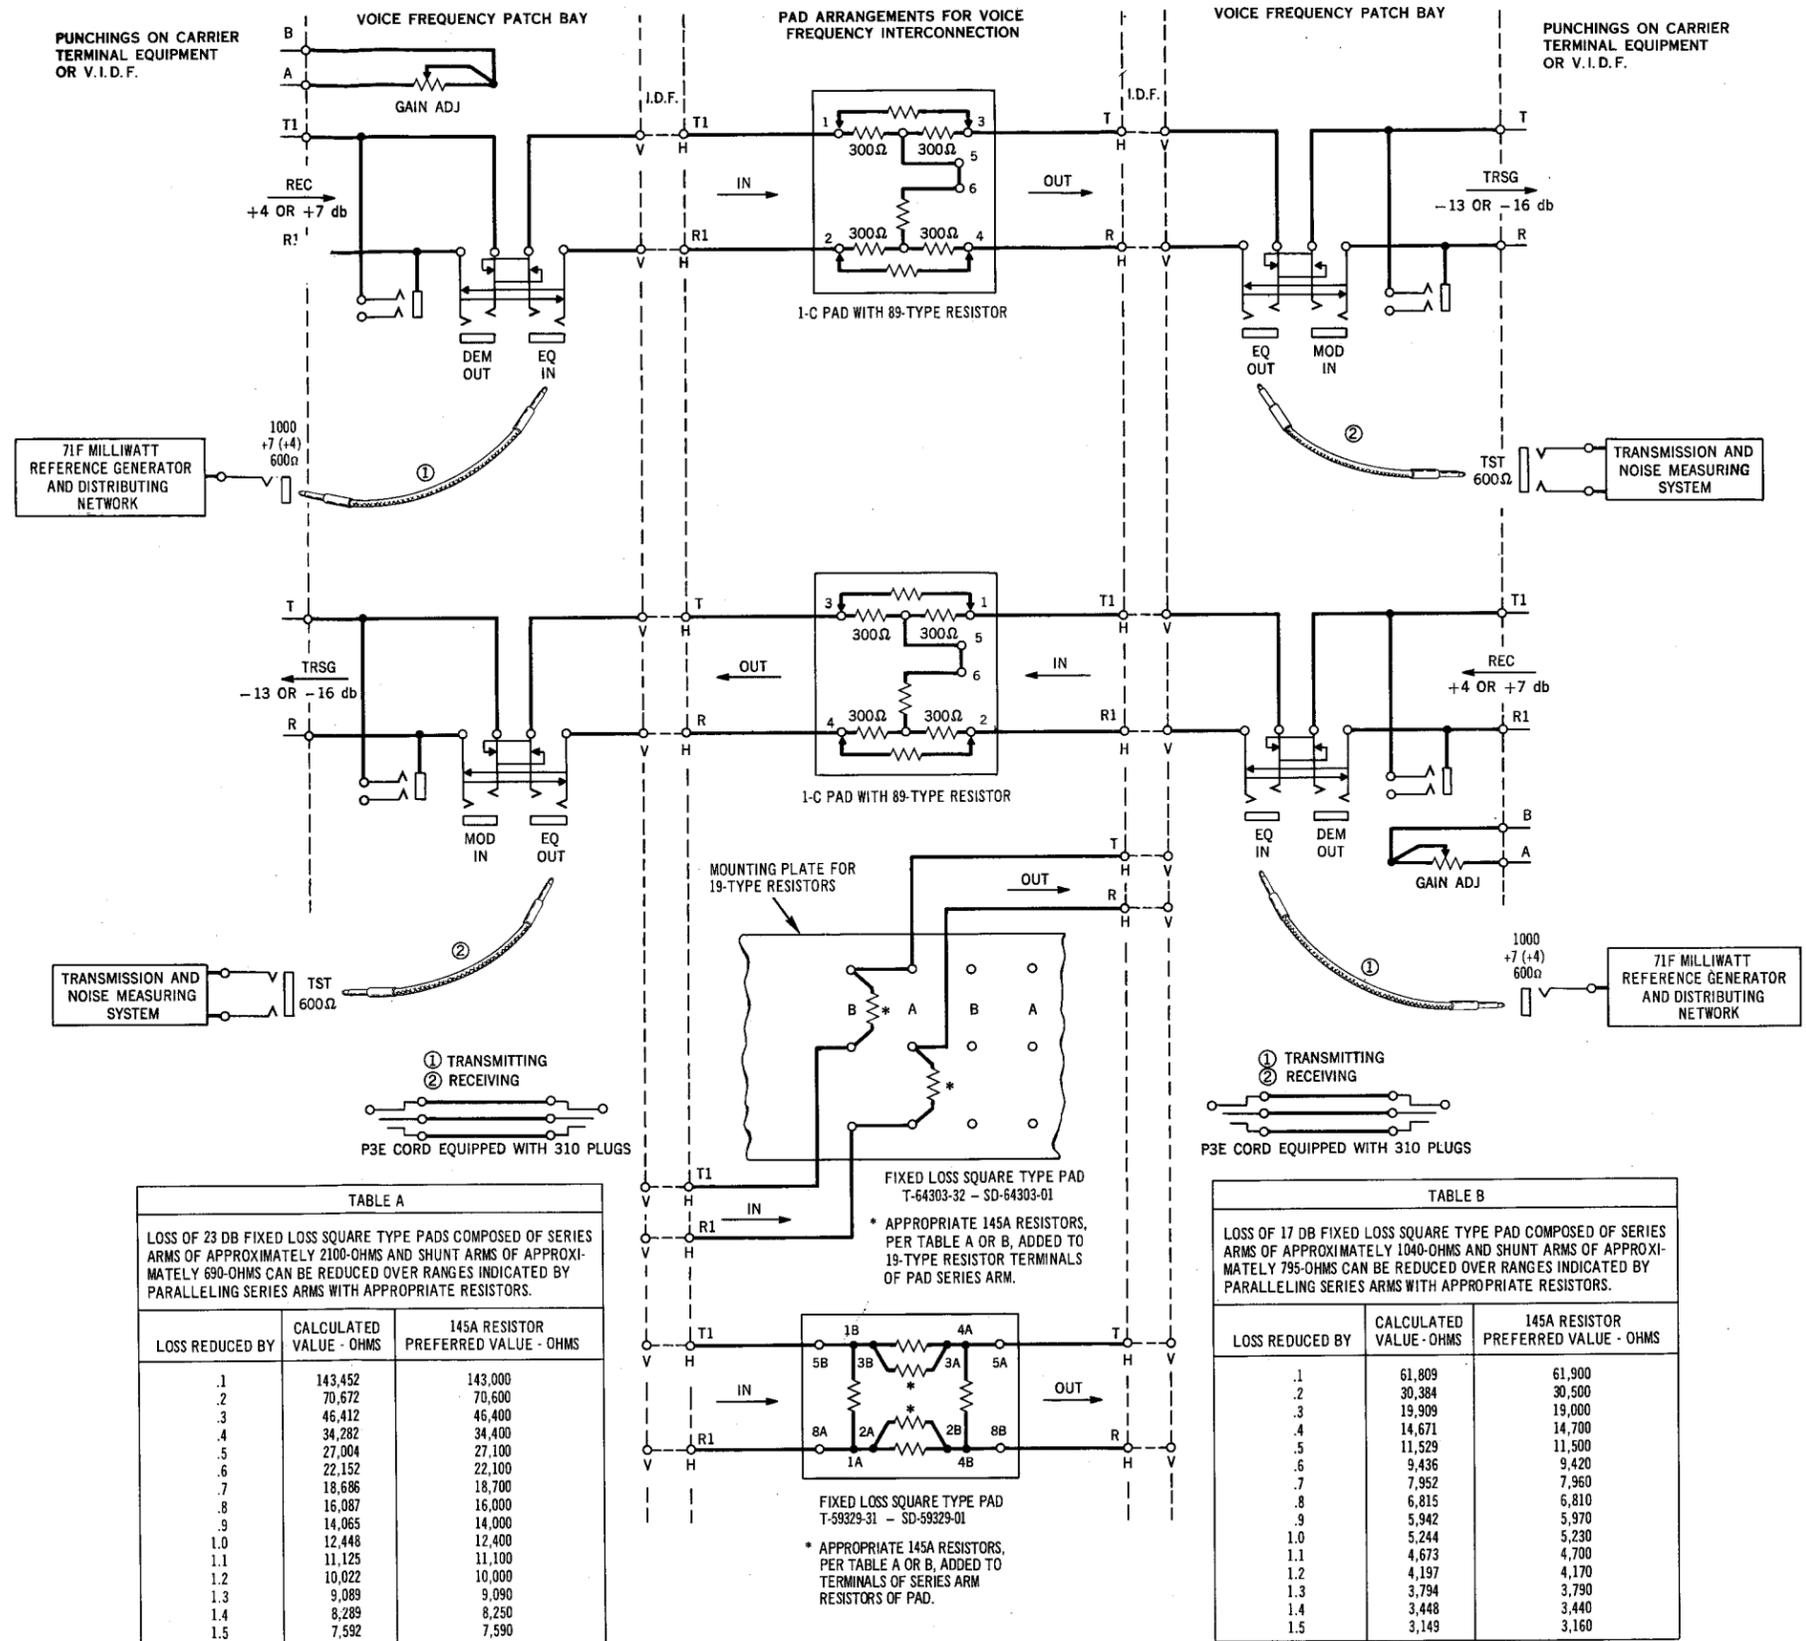

Fig. 1 - Adjustment of Transmission Levels on Combination Trunks - Intermediate Offices
Interconnection arrangements and losses between VF patch bays as required by circuit orders or trunk orders are normally accomplished by the use of 1C pad sockets with 89-type resistor combinations or by fixed loss pads as shown in Fig. 1.
<p>When transmission levels are to be adjusted on combination trunks that are in service, the trunks should be temporarily removed from service at both ends.</p> <p>The MOD IN and DEM OUT jacks of the carrier channels assigned to the trunks should be terminated in 600 ohms during the tests.</p> <p>Make sure that all milliwatt supply outlets which will be used are adjusted accurately and that the transmission measuring systems are calibrated correctly.</p> <p>Where a 1000 +7 or (+4) 600Ω outlet is not provided at the VF patch bay as shown in Fig. 1, a 21A transmission measuring set which has been calibrated using a 22A milliwatt reference meter can be used to obtain 1000-cycle test power at the correct level of +7 or (+4) db.</p> <p>Measurements and adjustments should be made in each direction of transmission between voice-frequency patch bay or repeater bay appearances as shown in Fig. 1. The measurements should include all equipment and office cabling and/or interoffice tie cabling losses.</p>
1	At the transmitting end — patch from EQ IN jack to 1000 +7 or (+4) 600Ω jack as indicated by ① in Fig. 1.
2	At the receiving end — patch from EQ OUT jack to TST 600Ω jack as indicated by ② in Fig. 1.
4	<p style="text-align: center;">17 DB FIXED LOSS SQUARE PADS — SD-64303-01</p> <p>Fig. 7 of SD-64303-01 and Fig. 18 of T-64303-32 details the schematic wiring arrangements for 17 db fixed loss square type pads consisting of 19-type resistors. Where these fixed loss pads are used, transmission level measurements and adjustments should be made as outlined below.</p> <p>At the transmitting end — patch from EQ IN jack to 1000 +4 600Ω jack as indicated by ① in Fig. 1.</p> <p>At the receiving end — patch from EQ OUT jack to TST 600Ω jack as indicated by ② in Fig. 1.</p> <p>Operate sensitivity switch on the measuring circuit to B + 10 and read the meter. The difference between this reading and -13.0 db is the change required in the loss of the 17 db fixed loss pad.</p> <p>To reduce the loss of 17 db pads, refer to Table B of Fig. 1 for selection of 145A resistors which should be connected in parallel with series elements of 19-type resistors. See Fig. 1 for details.</p> <p>Appropriate 145A resistors connected in parallel with series elements of 19-type resistors should provide a final transmission level measurement of -13.0 ± 0.13 db.</p> <p>The maximum allowable deviation in any 17 db fixed pad value from that originally indicated on the circuit layout record card shall not exceed ± 1.0 db.</p> <p>In those cases where a pad adjustment or repeater gain change exceeds the maximum allowable deviation of ± 1.0 db, the circuit should be investigated for trouble. If, after investigation the condition still exists, the control office shall be so advised prior to referral via lines of organization to determine if design changes are possible.</p> <p>Repeat Steps 4, 5 and 6 for the opposite direction of transmission.</p> <p>The adjusted value of 17 db fixed loss pads should be recorded and dated in ink on all circuit layout record cards and other locally prepared records and treated as a new specified value.</p>
<p style="text-align: center;">23 DB FIXED LOSS SQUARE PADS — SD-64303-01</p> <p>Fig. 11 of SD-64303-01 and Fig. 18 of T-64303-32 details the schematic and wiring arrangements for 23 db fixed loss square type pads consisting of 19-type resistors. Where these fixed loss pads are used, transmission level measurements and adjustments should be made as outlined below.</p> <p>8 At the transmitting end — patch from EQ IN jack to 1000 +7 600Ω jack as indicated by ① in Fig. 1.</p> <p>9 At the receiving end — patch from EQ OUT jack to TST 600Ω jack as indicated by ② in Fig. 1.</p> <p>Operate sensitivity switch on the measuring circuit to B + 10 and read the meter. The difference between this reading and -16.0 db is the change required in the loss of the 23 db fixed loss pad.</p> <p>To reduce the loss of 23 db pads, refer to Table A of Fig. 1 for selection of 145A resistors which should be connected in parallel with series elements of 19-type resistors. See Fig. 1 for details.</p> <p>10 Appropriate 145A resistors connected in parallel with series elements of 19-type resistors should provide a final transmission level measurement of -16.0 ± 0.13 db. The maximum allowable deviation in any 23 db fixed pad value from that originally indicated on the circuit layout record card shall not exceed ± 1.0 db.</p> <p>In those cases where a pad adjustment or repeater gain change exceeds the maximum allowable deviation of ± 1.0 db, the circuit should be investigated for trouble. If, after investigation the condition still exists, the control office shall be so advised prior to referral via lines of organization to determine if design changes are possible.</p> <p>11 Repeat Steps 8, 9 and 10 for the opposite direction of transmission.</p> <p>The adjusted value of 23 db fixed loss pads should be recorded and dated in ink on all circuit layout record cards and other locally prepared records and treated as a new specified value.</p>